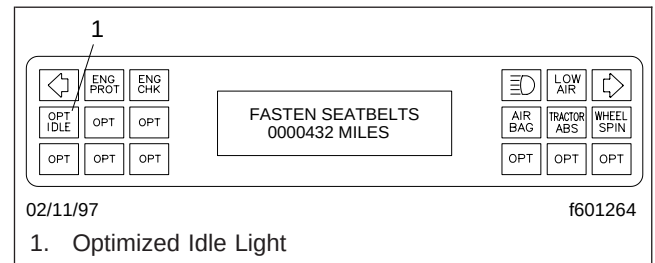
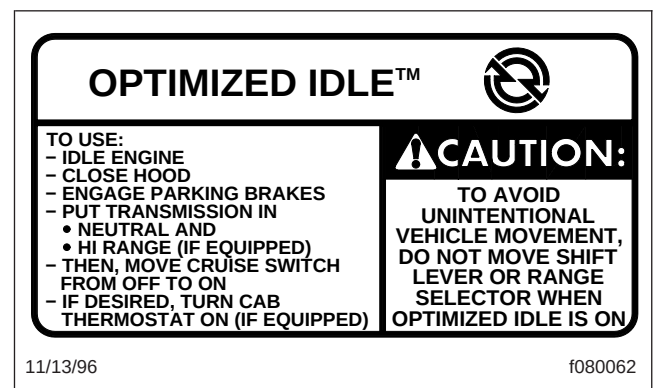
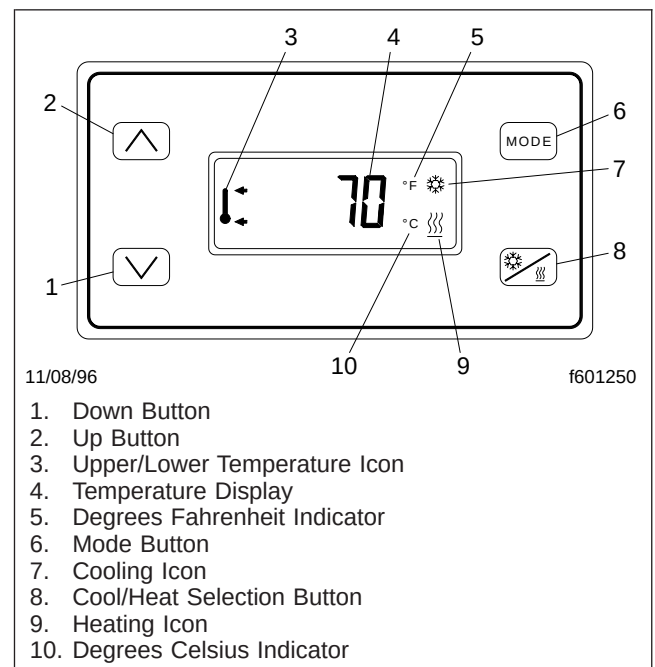

Fig. 2.21, Optimized Idle Light Location
Fig. 2.22, Optimized Idle Dash Label
Fig. 2.23, Optimized Idle Thermostat
Vehicles equipped with Optimized Idle have a label and a dash light. The dash light is on the dash message center or the Driver Message Center, on the A panel. See Fig. 2.21. See Fig. 2.22 for the dash label detail. If equipped with the thermostat mode, a thermostat is located in the sleeper, above the bunk. See Fig. 2.23.
- 2.2 Turn on the thermostat by touching any of the four buttons. See Fig. 2.23.